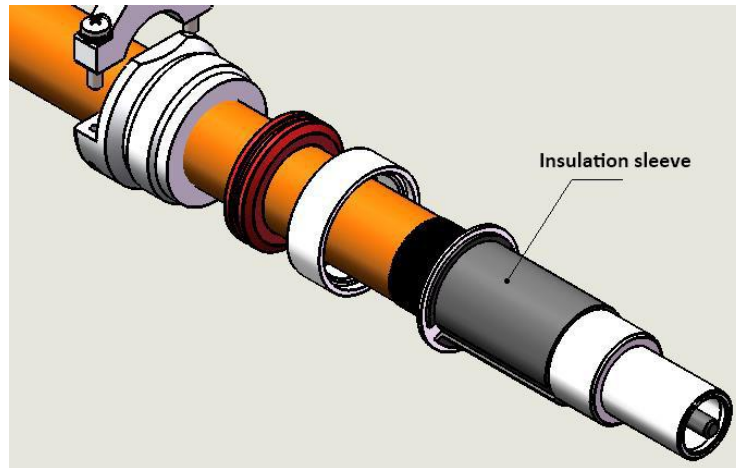

Figure 7
3.1.3 The insulating cover card is mounted on the terminal, as shown in Figure 7.